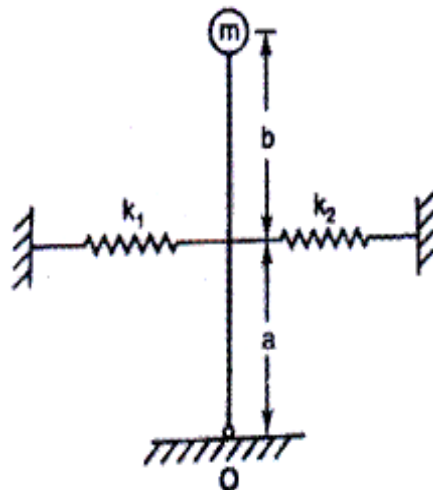

Fig. 1 (Q. 1b)
- b) Determine the expression for natural frequency of the system shown in Fig.1 **[4]**